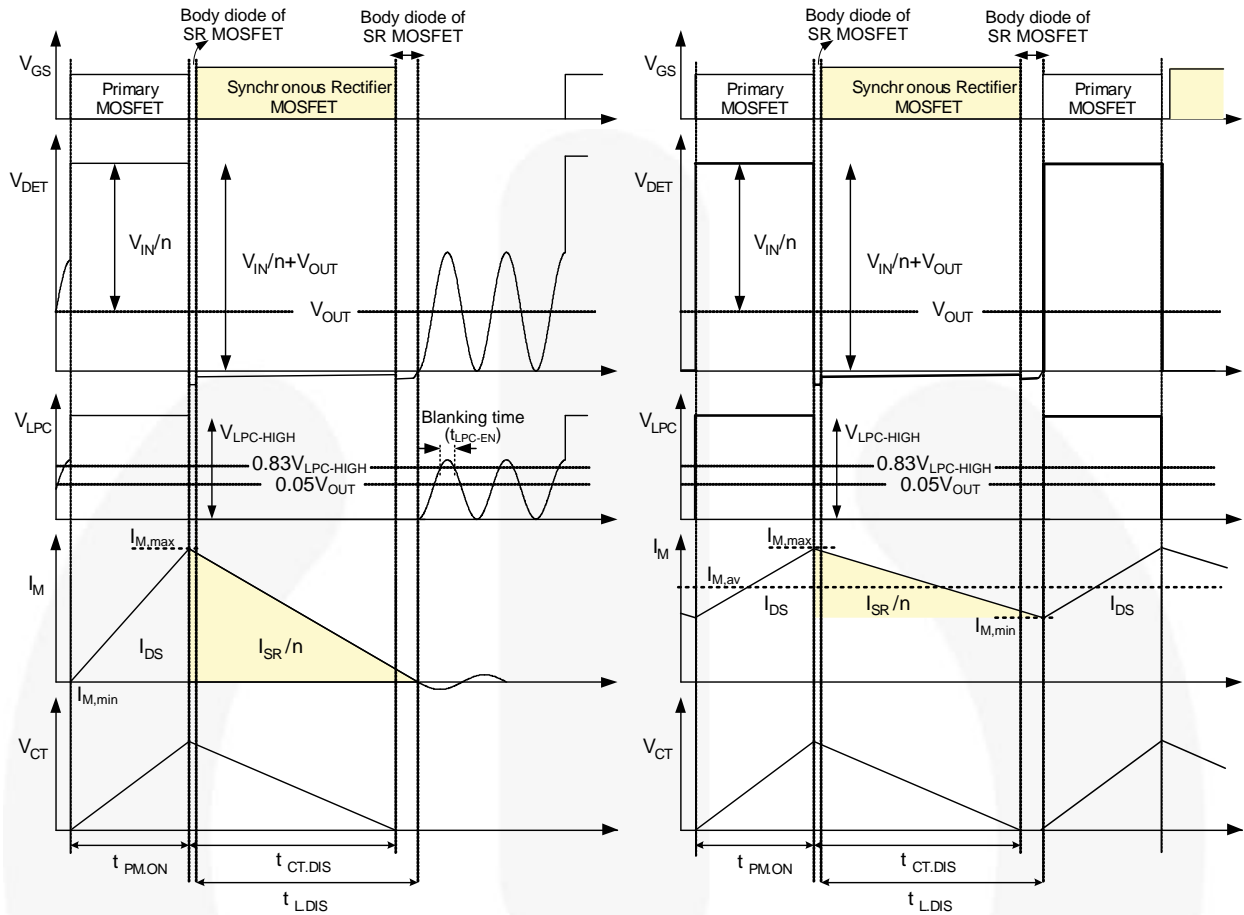
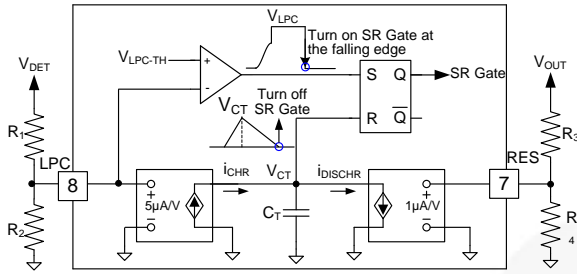

Figure 18. Typical Waveforms of Linear-Predict Timing Control in CCM and DCM/QR Flyback
Figure 19. Simplified Linear-Predict Block
The SR MOSFET turn-off timing is determined by linear-predict timing control and the operation principle is based on the volt-second balance theorem. The volt-second balance theorem states that the inductor average voltage is zero during a switching period in steady state, so the charge voltage and charge time product is equal to the discharge voltage and discharge time product. In flyback converters, the charge voltage on the magnetizing inductor is input voltage (V_{IN}), while the discharge voltage is nV_{OUT} , as the typical waveforms show in Figure 18. The following equation can be drawn:
FAN6204 uses the LPC and RES pins with two sets of voltage dividers to sense DET voltage (V_{DET}) and output voltage (V_{OUT}), respectively; so V_{IN}/n , $t_{PM,ON}$, and V_{OUT} can be obtained. As a result, $t_{L,DIS}$, which is the on-time of SR MOSFET, can be predicted by Equation (1). As shown in Figure 18, the SR MOSFET is turned on when the SR MOSFET body diode starts conducting and DET voltage drops to zero. The SR MOSFET is turned off by linear-predict timing control.
The linear-predict timing-control circuit generates a replica (V_{CT}) of magnetizing current of flyback transformer using internal timing capacitor (C_T), as shown in Figure 19. Using the internal capacitor voltage, the inductor discharge time ($t_{L,DIS}$) can be detected indirectly, as shown in Figure 18. When C_T is discharged to zero, the SR controller turns off the SR MOSFET.
Referring to Figure 18; when LPC voltage is higher than $V_{LPC.EN}$ over a blanking time ($t_{LPC.EN}$) and lower than $V_{LPC.TH-HIGH}$ ($0.05 V_{OUT}$), then SR MOSFET can be triggered. Therefore, $V_{LPC.EN}$ must be larger than $V_{LPC.TH-HIGH}$ or the SR MOSFET cannot be turned on. When designing the voltage divider of LPC, R_1 and R_2 should be considered as:
The typical waveforms of CCM operation in steady state are shown as Figure 18. When the primary-side MOSFET is turned on, the energy is stored in L_m . During the on-time of the primary-side MOSFET ($t_{PM.ON}$), the magnetizing current (I_M) increases linearly from $I_{M,min}$ to $I_{M,max}$. Meanwhile, internal timing capacitor (C_T) is charged by current source ($i_{CHR} - i_{DICHR}$) proportional to V_{IN} , so V_{CT} also increases linearly.
In DCM / QR operation, when primary-side MOSFET is turned off, the energy stored in L_m is fully released to the output at the turn-off timing of primary-side MOSFET. Therefore, the DET voltage continues resonating until the primary-side MOSFET is turned on, as depicted in Figure 18. While DET voltage is resonating, DET voltage and LPC voltage drop to zero by resonance, which can trigger the turn-on of the SR MOSFET. To prevent fault triggering of the SR MOSFET in DCM operation, blanking time is introduced to LPC voltage. The SR MOSFET is not turned on even when LPC voltage drops below $0.05 V_{OUT}$ unless LPC voltage stays above $0.83 V_{LPC-HIGH}$ longer than the blanking time ($t_{LPC.EN}$). The turn-on timing of the SR MOSFET is inhibited by gate inhibit time ($t_{INHIBIT}$), once the SR MOSFET turns off, to prevent fault triggering.